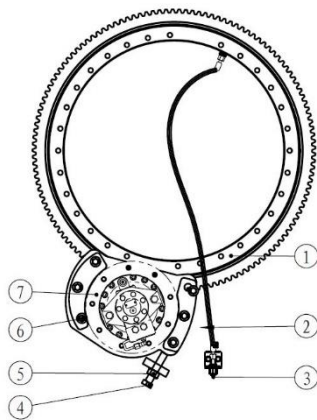

Figure 1-2 Slewing mechanism
- As shown in Fig. 1-2, find the grease filler 3 next to the slewing reducer, connect the greaser, and rotate the rotary table several times while filling grease until the grease